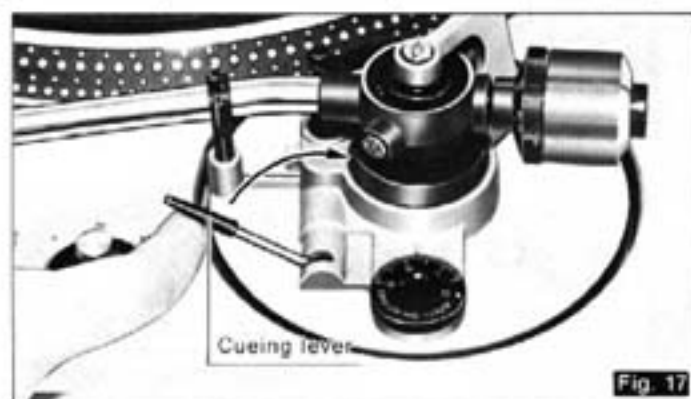

Fig. 17
- 3 Lift the cueing lever as indicated by the arrow. (See Fig. 17).